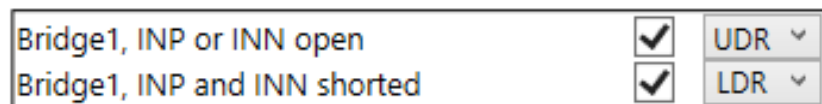

Figure 180. UDR/LDR Selection
- UDR/LDR drop-downs: define if an upper or lower diagnostic range of signalization level is used on the AOUT and/or FOUT pins for the selected check (see Figure 180).